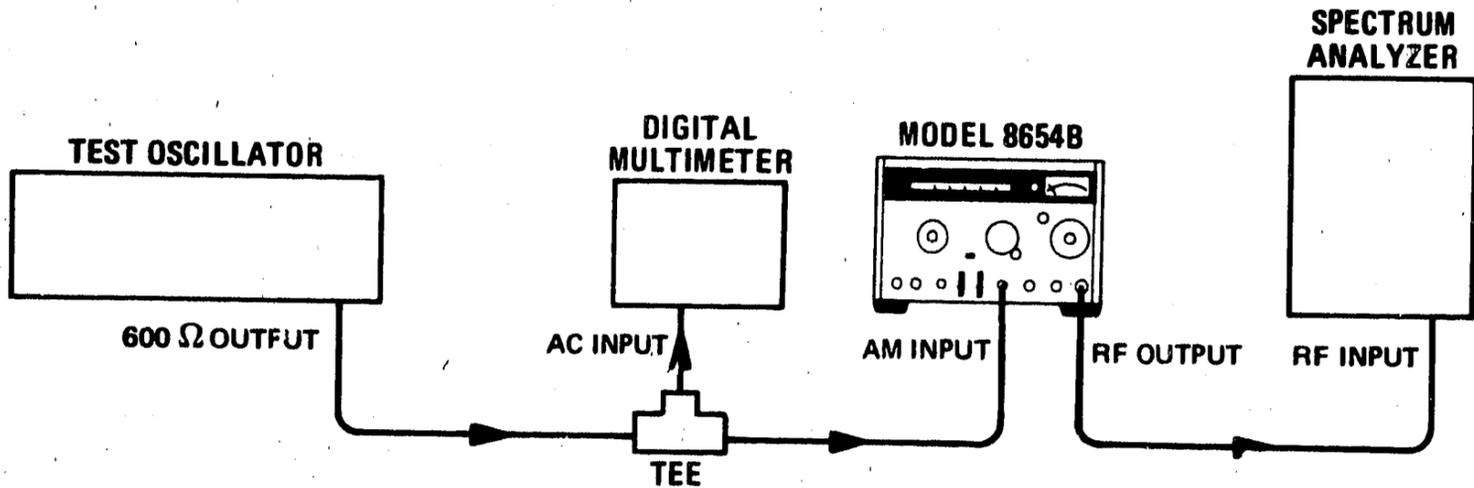

Figure 4-6. AM Sensitivity and Indicated Accuracy Test Setup
1. Connect equipment as shown in Figure 4-6 after setting Signal Generator controls as follows: